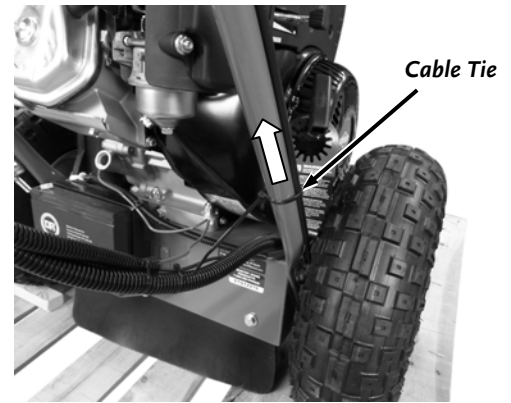

Figure 19
28. Move the Cable Tie that is securing the Throttle Cable to the right side Handlebar up to the top portion of the handlebar (**Figure 19**). This cable Tie can also be cut if it is too tight to move easily.